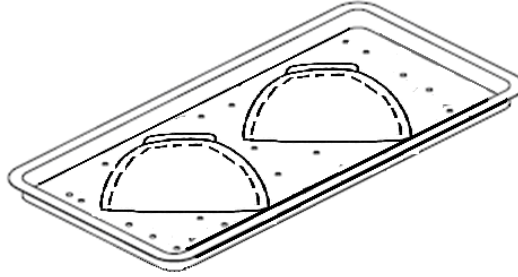

Figure 62
- I. Round pans, trays, pots pan, etc., should be opening upside down as shown in Figure 62.